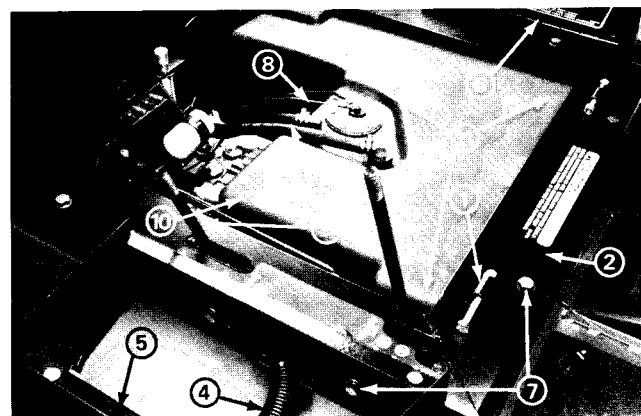

Figure 63
11. Remove the three (3) capscrews, lockwashers and flatwashers securing the fuel tank to the chassis (Fig. 63).
12. Disconnect the wires from the fuel sender (Fig. 63). Loosen the clamps holding both fuel lines on the fuel tank fittings. Pull the fuel lines off the fittings.